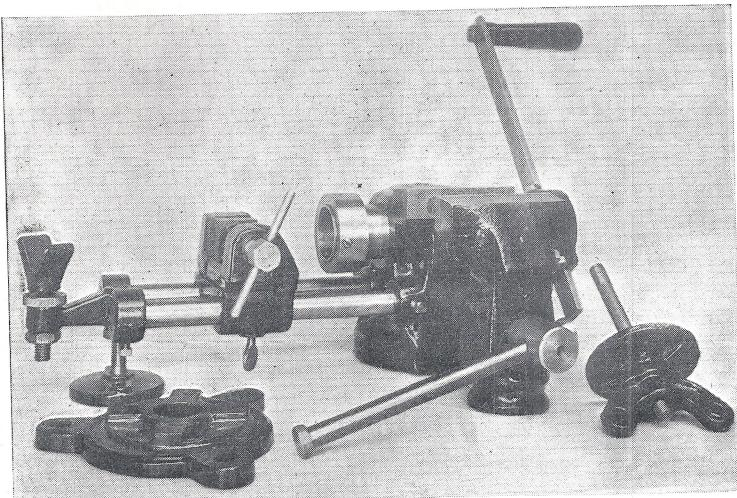
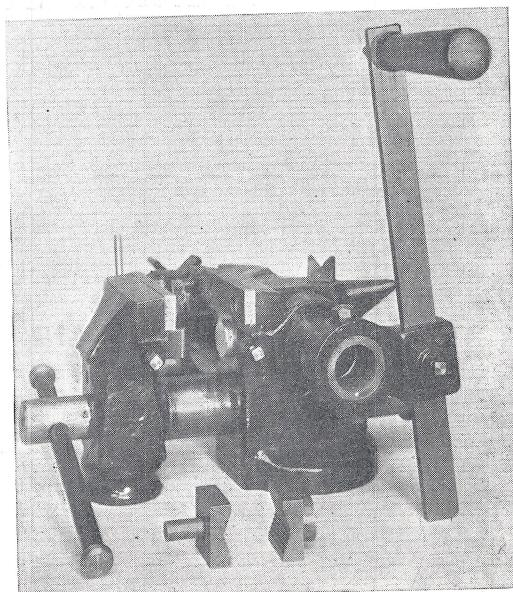
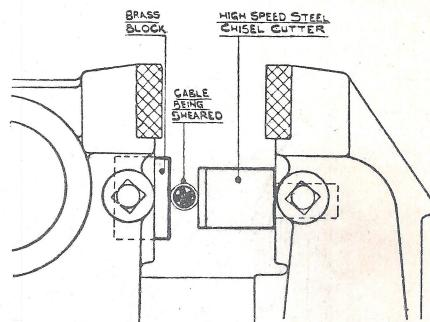

Fig. 1. The "101" Combination Vice, showing Screwing Gear, and attachments to Bench.
Fig. 2. The "101" Combination Vice, showing Operating Handle, Bench Vice, and attachments, with Anvil.
Fig. 4. Showing Cutting Gear in position.
* See page 449, Vol. 73, Fig. 4, "Locating holes." Nov. 7, 1935.
THIS note is the result of our examination of the above useful combination tool, which is a patented article, made by Messrs. The Yorkshire Metal Sprayers, Ltd., of 75, Barrack Road, Leeds, 7. Figs. 1 and 2, taken respectively, show: a front view of the combination, together with the permanently fixed 2-way bench plate to left front, and the clamping screw and bench plank washer, on front right; and a right hand end view, showing operating handle, parallel bench vice, and cutting device, tube jaws, and cable stripper mounted.
vee tube or rod support capable of adjustment for height. On the guide rods is mounted, adjustable for position anywhere along, a tube or rod vice with fixed and moving jaws by cross action, which vice, mounted on cross vee ways, can be set to centralise, by such floating action, any tube or rod held within its jaws. The capacity of this vice is up to $1\frac{1}{2}$ " diameter. Such work, firmly held, and supported at the tail by the vee, is available for hand action screwing by the hollow die carrier, working through the fixed jaw, and operated by the adjustable handle seen better in Fig. 2. The die holder is set concentric with the vice, and on front is hollowed to take $1\frac{1}{2}$ " diameter dies by $\frac{1}{8}$ " deep, and the hollow clearance tube is $1\frac{1}{8}$ " bore and admits of $2\frac{1}{8}$ " forward travel of the die. There is the usual 3-screw adjustment for split circular dies in the holder. The distance from die face to vice centre, with both at extremities, is 6" nearly enough. It will be seen by this that any round stock or tube up to $1\frac{1}{8}$ " about, can be screwed to a length of $2\frac{1}{2}$ " at one vice setting, and can be screwed continuously by successive resetting of the vice. The punching machine is brought into action by the attachment—as will be described—of extra punches and corresponding dies as shown in the outline elevation, Fig. 3. Sheet metal, fibre, brake lining and similar material may be so punched by the action of
screwing machine; punching machine; cable, rod and pin cutter; cable stripper, and a flat and conical anvil, with swage socket. Taken in the order given, Fig. 2 shows first the bench vice, which has $3\frac{1}{2}$ " jaws, with hardened steel inset faces, capable of opening to a stop with $3\frac{1}{8}$ " of clearance. The screw is entirely covered by the cylindrical guide, which is slotted on the underside to act as a spline to the vice nut as a key. The pipe vice is effected by the attachment of the hardened jaws seen in the front of Fig. 2, which are attached in a manner to be described. By them, tubes ranging from $\frac{1}{2}$ " to 2" can be gripped. The tube, rod and strip bending is effected by the cylindrical reel shaped jaw at the base of the moving jaw, which, acting against and opposite to the fixed channel jaw at base of fixed jaw, admits of gripping work between and bending round the cylindrical jaw. The screwing machine is best seen in Fig. 1, which indicates a pair of round rod parallel guide bars, held horizontally between a pair of sockets on the fixed vice body and a pair of similar sockets on an outlying flanged bench support, adjustable for height. The guide bar sockets are all set-screw adjusted in the four positions. The outlying support, still further out, carries a
the parallel vice-screw, but punches and dies are extra. The cable, rod and pin cutter, as seen in position in Fig. 2, and shown in action in Fig. 4, consists of a chisel edge cutter, socketed into the moving jaw below its grip face, to which it is set-screwed, and set opposite a brass anvil block similarly socketed and set screwed to the fixed jaw. The cutter socket is $\frac{1}{16}$ " and takes also, in place of the cutter, a tube grip jaw or a punch. The anvil socket is 1" and takes also, in place of the anvil, the other tube grip jaw or a punch die. All these actions
are operated by the vice screw. The cable stripper is a vee chisel edged swage piece, set in the swage socket of the anvil, seen in position in Fig. 2. By this, and hand action, insulation of cable can be circularly cut and stripped off. The anvil is a back projection of the fixed vice jaw, and, with any swage removed, presents a $2\frac{1}{2} \times 1\frac{1}{4}$ " flat face and a strong conical bick projecting $1\frac{1}{8}$ " further.